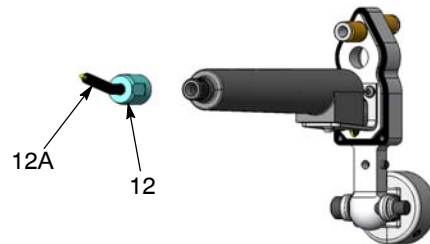
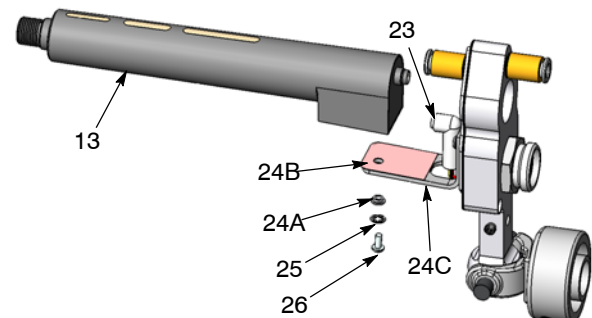

Figure 27 Removing the Multiplier from the Housing
Figure 28 Replacing the Multiplier
3. Remove the contact guide (10) from the housing.
4. See Figure 27. Unscrew the multiplier nut (12). Remove the multiplier contact (12A) from the nut. Replace the multiplier contact if it is damaged.
5. See Figure 28. Remove the screw (26) and lockwasher (25), then remove the multiplier (13) from the bracket (24C).
6. Disconnect the harness plug (23) from the multiplier.
1. See Figure 28. Connect the harness plug (23) to the multiplier (13).
3. Secure the multiplier to the bracket with the screw (26) and lockwasher (25).
4. See Figure 27. Install the contact (12A) in the multiplier well and secure it with the multiplier nut (12).